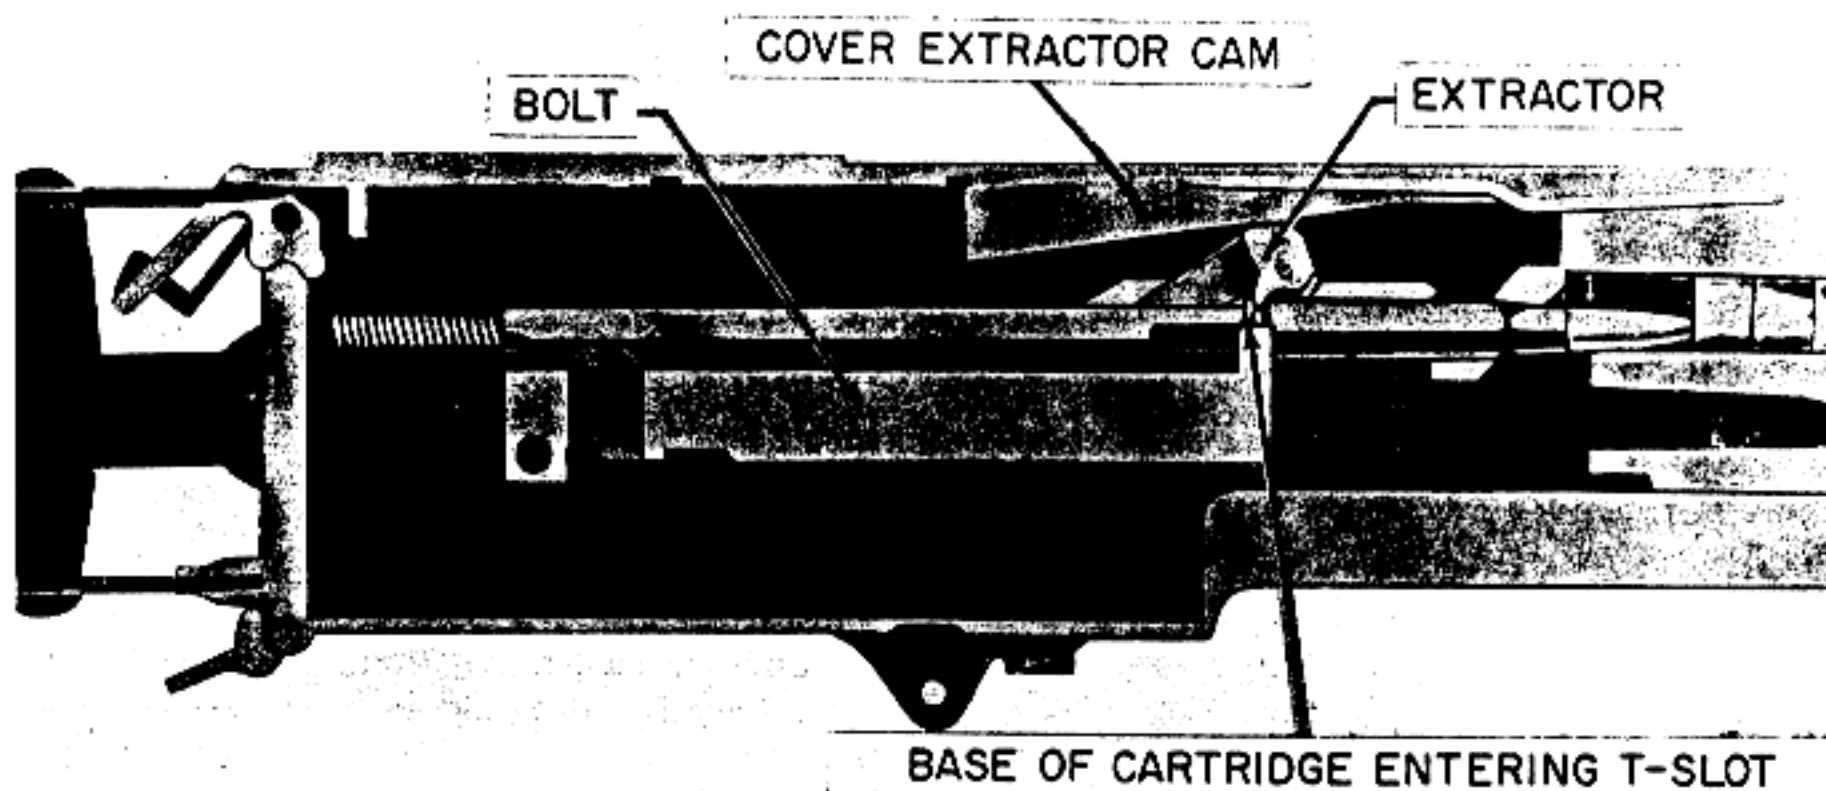

Figure 92. Feeding—cartridge entering the T-slot in the bolt.
(2) As the bolt continues its movement to the rear, the cover extractor cam forces the extractor down, causing the cartridge to enter the T-slot in the bolt (fig 92).
(3) As the bolt moves to the rear and the extractor is forced down, the extractor lug, riding along the top of the extractor switch, forces the rear end of the extractor switch downward. Near the end of the rearward movement, the extractor lug overrides the end of the switch and the switch snaps back up into position.